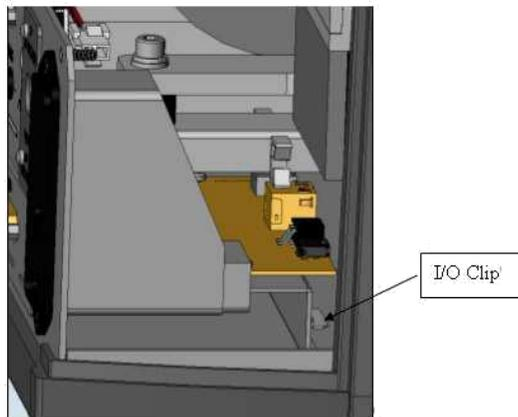

Figure 7: I/O Clip
- Slide the I/O assembly into the leak detector and ensure that the I/O bracket engages the clip at the base of the leak detector (Figure 7: I/O Clip).